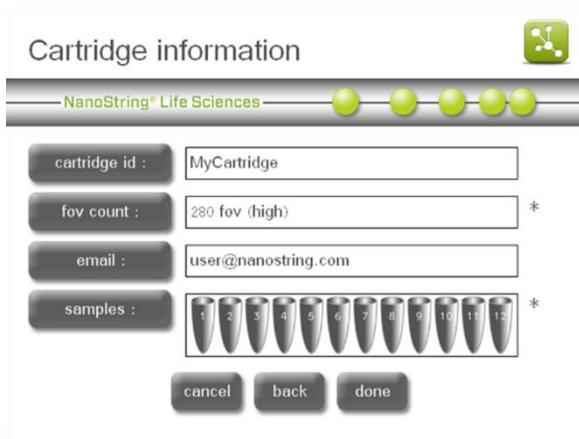

Figure 75: The ‘Cartridge information’ screen.
9. Press **enter**. The system will return to the ‘Cartridge information’ screen (**Figure 75**).